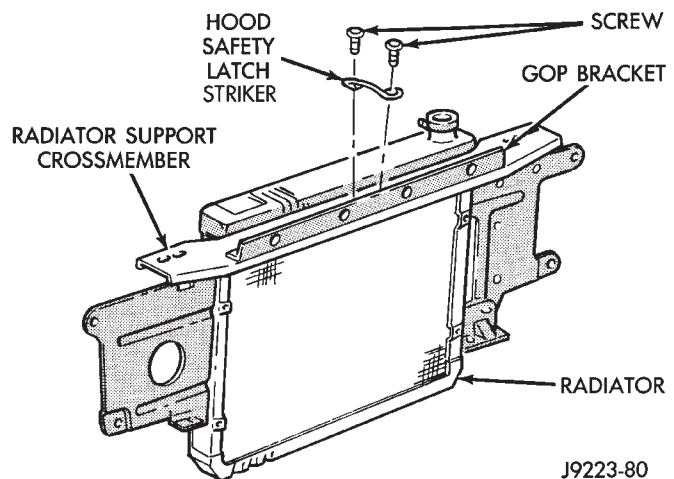

Fig. 21 Hood Safety Latch Striker—2.5L Engine (Typical)
(1) Remove the striker screws from the radiator support crossmember (Fig. 21).